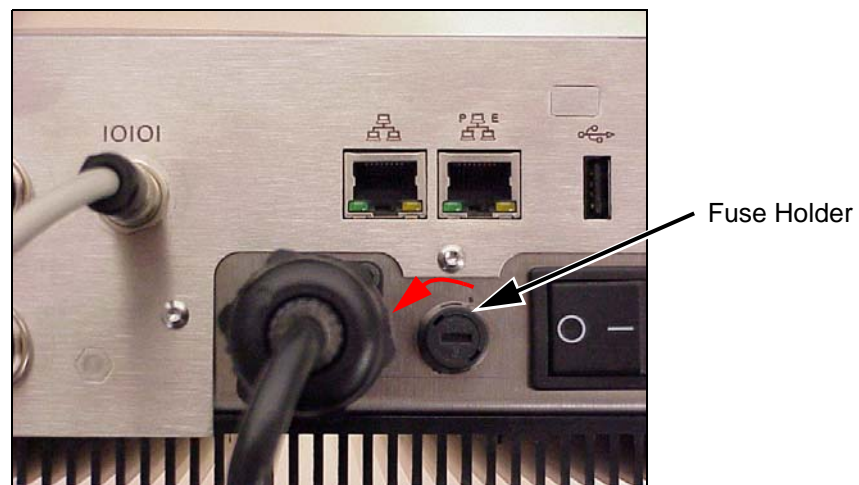

Figure 7-1: Fuse Holder removal
- 1 Using a small screw driver, press and turn the fuse holder anti-clockwise, and remove the fuse holder (see Figure 7-1).